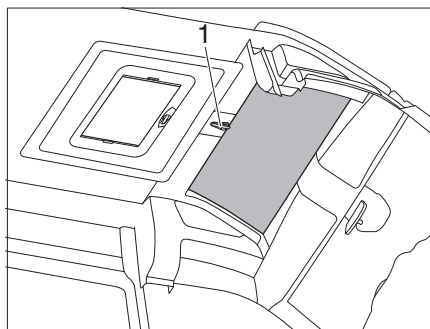

Fig. 69 SkyRoof®
- Open the latch and turn the crank a half rotation (Fig. 69,1).